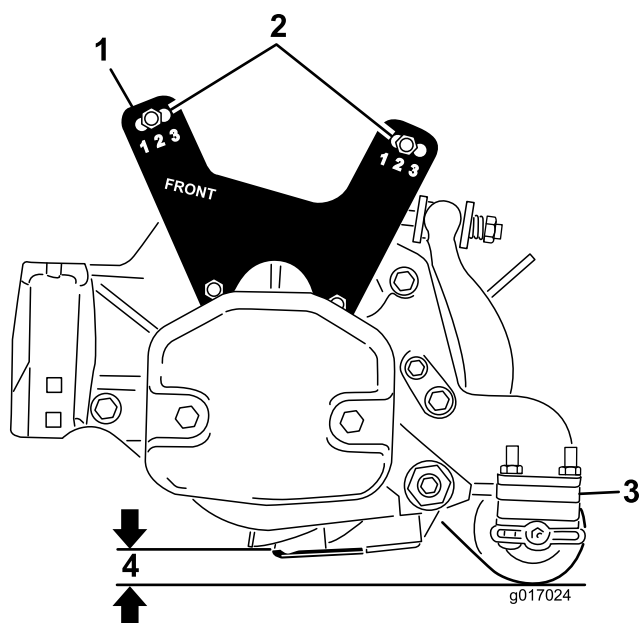

Figure 20
- Lower the cutting unit to the floor and measure the distance from the floor to the top of the bedknife, as shown in Figure 20